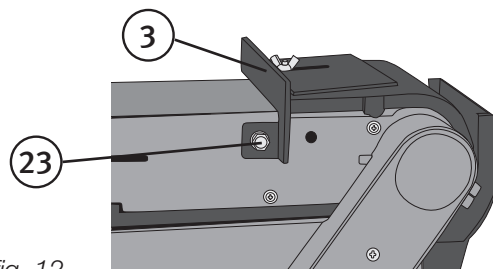

fig. 12
3.5 Mounting the work stop (fig. 12)